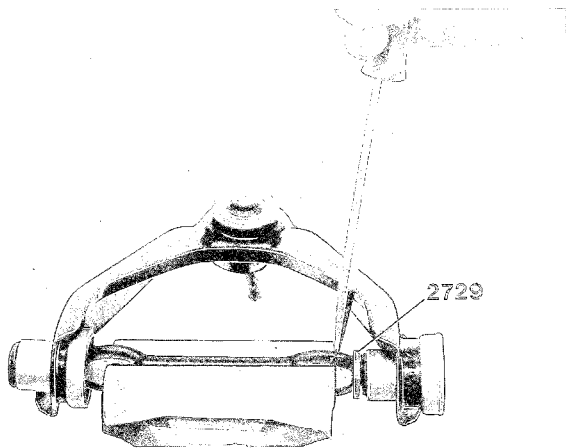
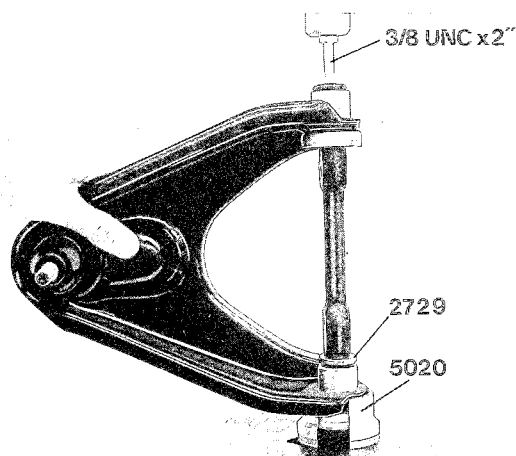

Fig. 6-31. Positioning removal tool
Fig. 6-32. Shaft removal
2. Fix the control arm shaft in a vise. Carefully bend out the control arm ends so that tool 2729 can be attached, Fig. 6-31. Screw a bolt into the hole at the other end of the shaft. Position adapter 5020 on the flanged end of the bushing. Press on the bolt and push out the shaft and bushing, Fig. 6-32.